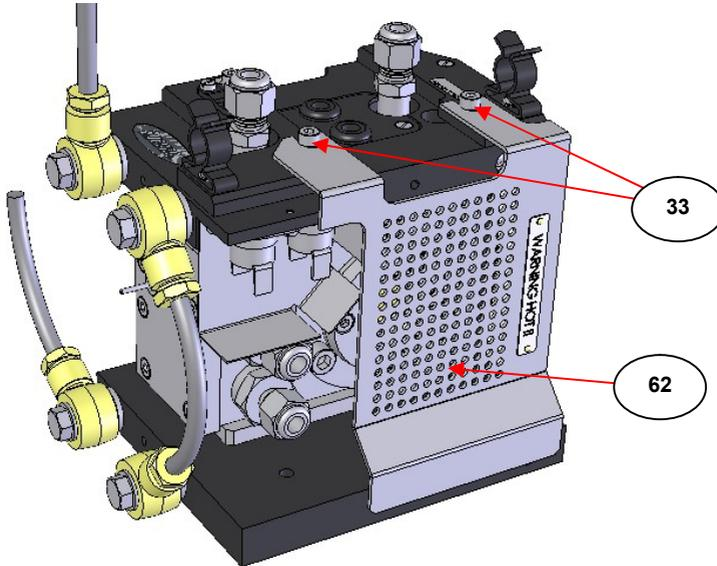

Fig 8. Heat Shield Fitted for Reflectance Mode of Operation
At this stage, before fitting the wedged window assembly (56), the new heat shield (62) can be fitted now over the plane window assembly (11) that is being retained on the HTHP Cell body (3). The two cap head fixing screws (33) for the heat shield (62) are tightened to hold it in position as shown for Fig 8.
side opposite to that shown for **Fig 8.**) This is achieved by unscrewing the six M6 x 10mm cap head fixing bolts (**30**) using the 5mm A/F hexagon key bit and torque wrench supplied. (Please refer to the HTHP Cell instruction manual 2I-05850-17, pages 38 to 44, for removal and fitting of window assemblies.)